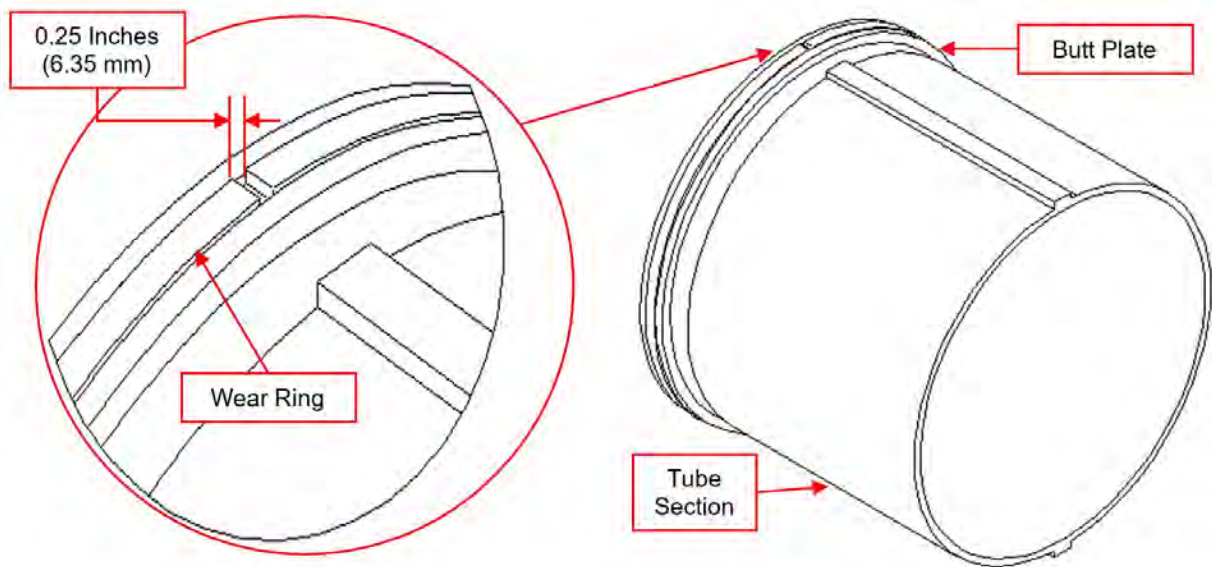

Figure 8-9 Replacing Wear Rings
1. Clean the butt plate and wear ring groove (Figure 8-9).
2. Slide the wear ring over the mast and into the groove. Press the wear ring into the groove to make sure there is at least $\frac{1}{4}$ inch (6.35 mm) clearance between the two ends (Figure 8-9). If necessary, cut enough off one end to get the required gap.